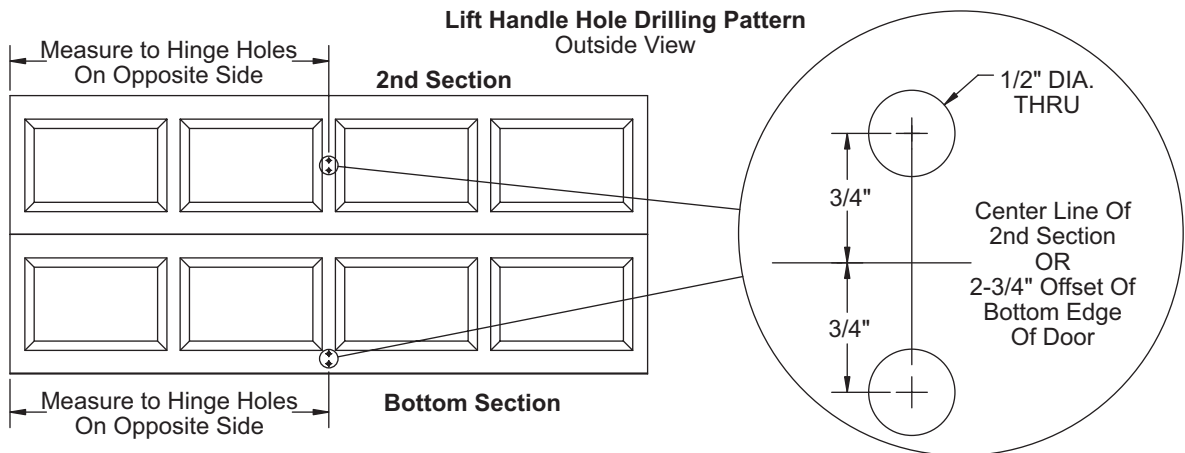

FIG. 8-C
Remove the (4) tabs at the end of each stem using a pair of pliers. (FIG. 8-A)
From the front of the door section, drill (2) 1/2" holes through the section according to the Bottom Section Hole Pattern (FIG. 8-C). A T-Square should be used to mark the holes to ensure that they are vertically in line. If your door has an outside keyed lock, the hole pattern should be drilled on the bottom section directly below the lock. If your door does not have an outside keyed lock, the hole pattern should be drilled directly below the hinge closest to the horizontal center of the door. Install the lift handle & inside step plate assembly using (2) #14 x 5/8" sheet metal screws (FIG. 8-B).
From the front of the door section, drill (2) 1/2" holes through the section according to the 2nd Section Hole Pattern (FIG. 8-C). A T-Square should be used to mark the holes to ensure that they are vertically in line. The hole pattern should be drilled directly above the hinge closest to the horizontal center of the door. Install the lift handle / inside step plate assembly using (2) #14 x 5/8" sheet metal screws (FIG. 8-B).